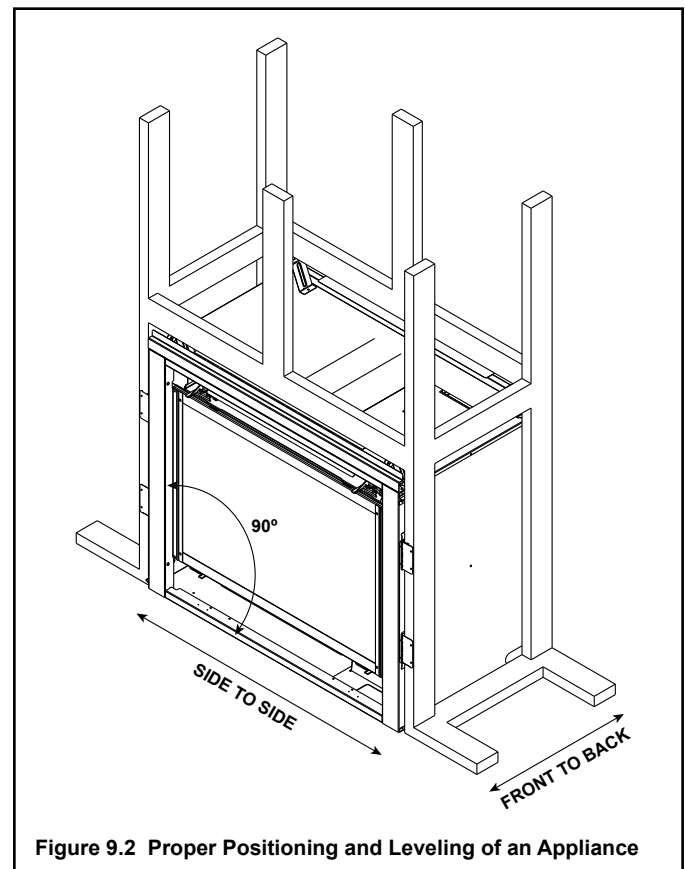

Figure 9.2 Proper Positioning and Leveling of an Appliance
6. Using a framing square, make sure that the sides of the appliance are square to the bottom as shown in Figure 9.2.